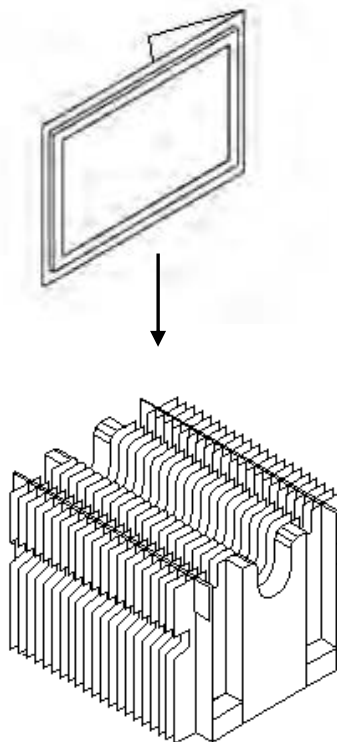

Fig.7
- (2) Packed LCD module is put in the packaging box. (Fig.7)